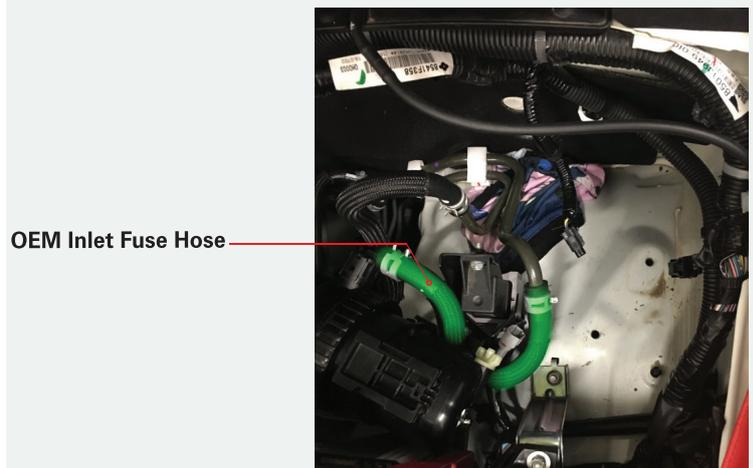

FIGURE 3
- 6 Remove the OEM fuel supply hose & hose clamps (highlighted green in Fig. 3). Have a rag ready as some fuel will spill from the hose and pipe.